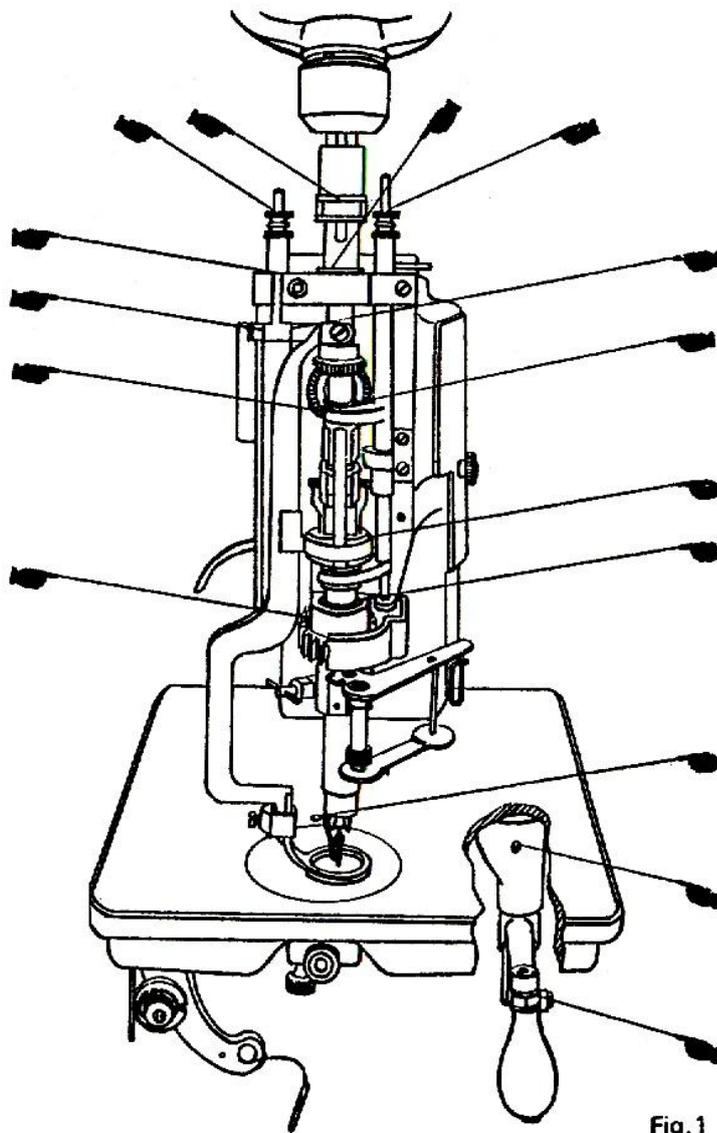

Fig. 1
4. TO OIL THE MACHINE (Fig. 1, 2, 11 & 12)
Oil should be applied to the places designated by unlettered arrows in Fig. 1, 2, 11 and 12.